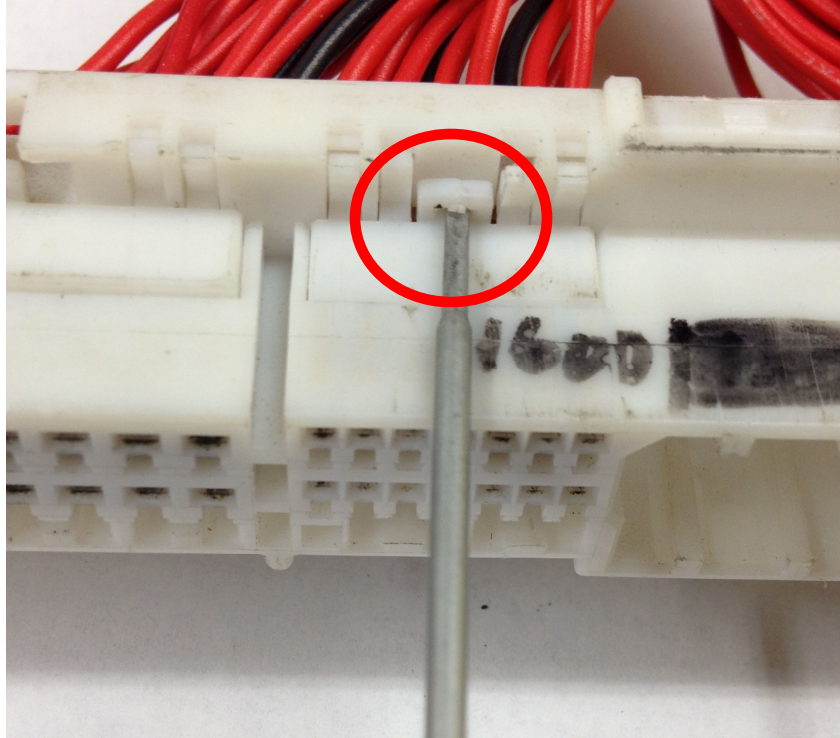

Figure 2: Pry in this area
1. Locate a small screwdriver (a precision 1.5mm wide flathead screwdriver is recommended) and carefully pry white plastic retainer using the slot in the pin lock so it disengages vertically about 1mm as shown in figures 2 and 3: